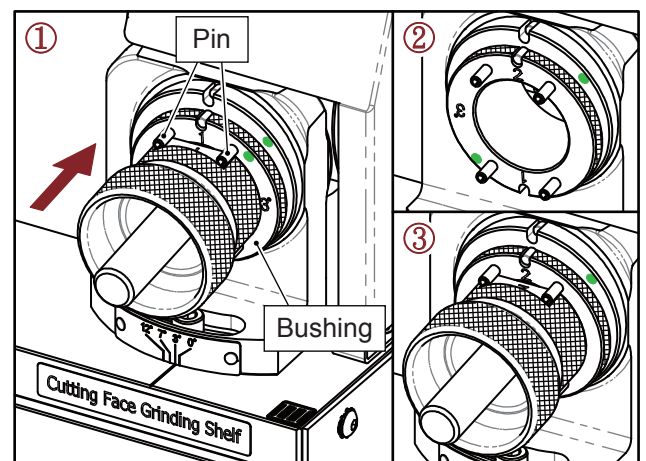

Fig. 8-2
2. 2 Flute Cutting Face Grinding (III) (Fig. 8-2)
- ① Insert the Chuck set into the bushing on Shelf (III), align Slot No.1 with the two pins where marked as No.1, gently push the Chuck set until the grinding noise stops.
- ② Take the Chuck set out and turn the bushing to No.2, align No.2 of the bushing with the pin on the shelf, then insert it to the end.
- ③ Insert the Chuck set into the bushing, align Slot No.2 with the two pins where marked as No.2, gently push the Chuck set until the grinding noise stops.